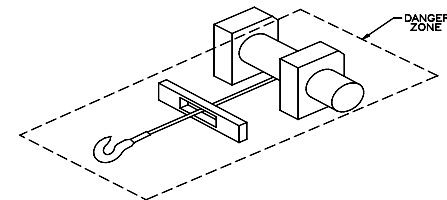

Fig. 1
3. Beware of the danger zone. The danger zone is the area of the rotating wire rope drum, the fairlead (if fitted), the wire rope, the hook, and motor (see Fig. 1). First relieve tension on load then disconnect the control switch before putting hands in or around the danger zone. Disconnect power leads to battery before working in or around drum.